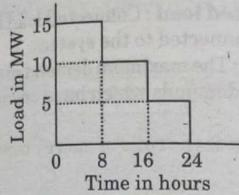

Fig. 1.9.1.
**Que 1.9.** The load-duration curve for a system is shown in Fig. 1.9.1. Determine the load factor.